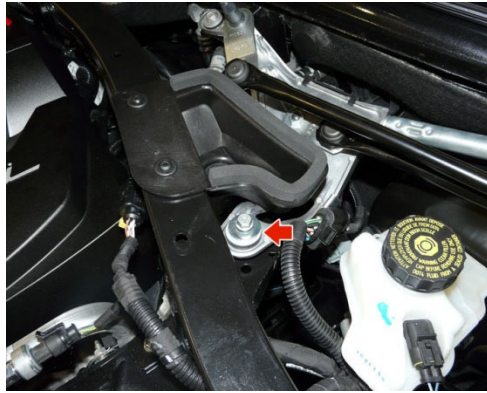

Fig.7
g. Remove the bolt between wiper linkage and the front cross member. (Fig.7)